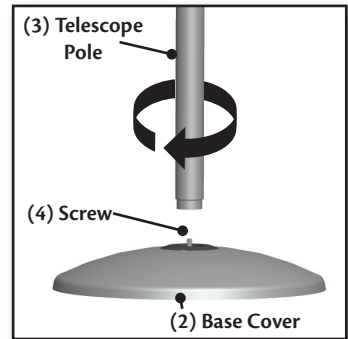

Figure 4.
2. Insert the base of the Telescoping Pole(3) into the top of the Base Cover(2) and attach to the Base Weight(1) by turning clockwise on the Screw(4) in the center of the Base Weight(1). Figure 4.